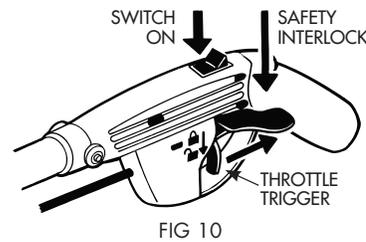

FIG 10
1. Switch engine on (Fig. 10). Push "Run" down. Engine starts on idle.
6. Throttle Trigger (engine accelerator control is operated by pushing down interlock with thumb and pulling on trigger (Fig. 10).